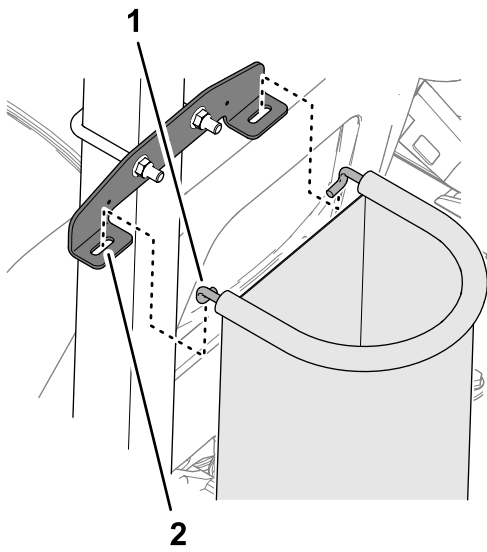

Figure 24
3. Insert the hooks of the hoop rod into the slots in the mount bracket (Figure 24).